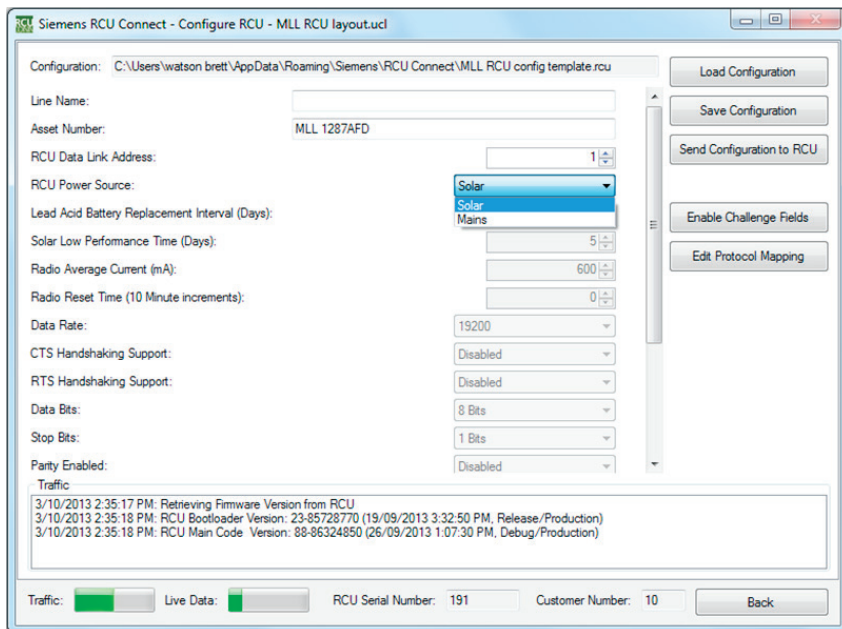

Figure 45: RCU Connect – enter site specific data
8. Alternatively, the user might want to load a previously saved configuration. This can be achieved by clicking the “Load Configuration” button and selecting the configuration to load from the file selection screen. Once a configuration has been loaded, the settings based on the configuration template have been replaced by the settings in the configuration that has been loaded. Once a configuration has been loaded or saved, the name of the configuration is shown in the “Configuration” field at the top of the screen, see Figure 45.